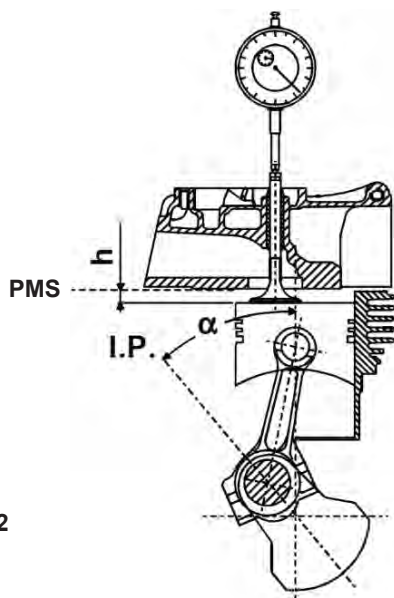

Fig. 2
6. Slowly turn the drive shaft in an anti-clockwise direction and check the comparator to make sure that the piston drops about 5 mm in relation to TDC (dimension "h" - fig. 2).
7. Slowly turn the drive shaft in a clockwise direction and check the comparator to make sure that the piston rises by the values indicated in the following table, in relation to TDC (dimension "h" - fig. 2):
12. Turn the drive shaft and check the comparator to make sure that the piston drops about 10 mm in relation to TD. (dimension (quota "h" - fig. 2).